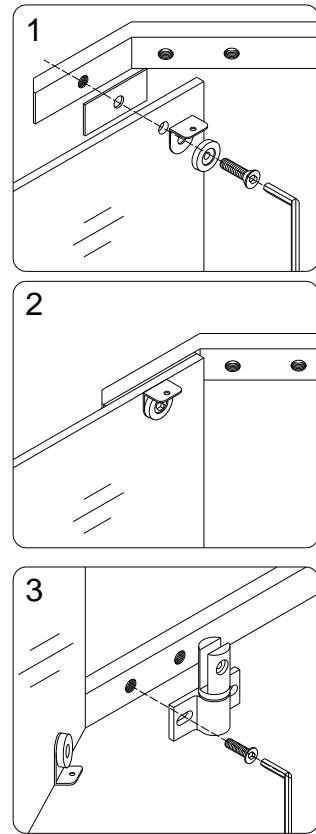

Fig 14
11. Locate the **Pivot bars (14)**, **Pivot assembly (25)** and **parts 26, 27, 28, 29, 30, 33**. Confirm the direction of the opening of the door. For left hinge installation 3 holes on the pivot bars should be on the left; for right hinge installation 3 holes on the pivot bars should be on the right side. Connect the stationary glass panels with pivot bars using the **Glass bracket (30)**, **Flat head bolt M8x20 (28)** and **Washer (29)**. **Do not forget to place the clear rubber Gasket (26)** between the pivot bars and the glass to prevent contact of the glass to the metal. See Fig 14/1, 14/2 for details.
12. Fasten **Pivot assemblies (25)** to the pivot bar using **Round head bolt M8x14 (27)**. See Fig 14/3 for details.